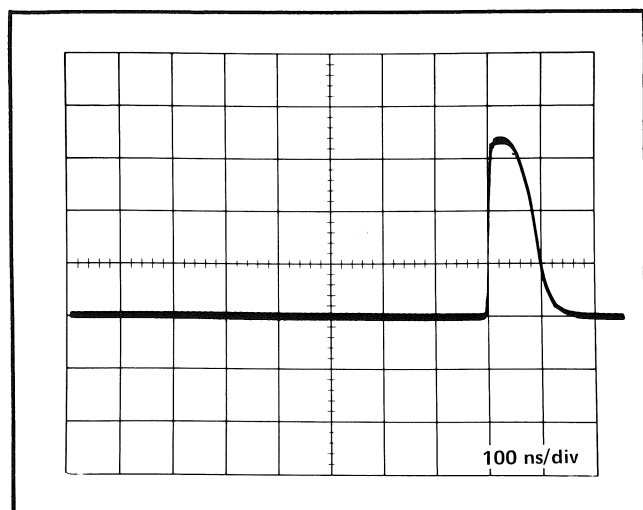

Fig. 6-7. Waveform showing the correct pulse position for adjusting the TIME-DISTANCE calibration R288 control (Step 5).
d. Set the 3T7 TDR Sweep FINE control to place the pulse at graticule line eight (see Fig. 6-7).